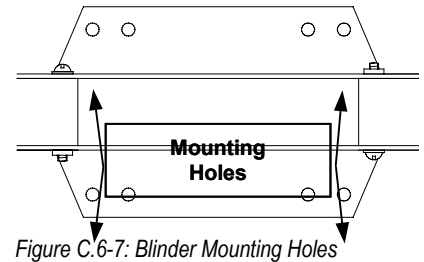

Figure C.6-7: Blinder Mounting Holes
- 5) Align the Horn Blinder with the outer holes over the bezel retaining holes {Figure C.6-7}.